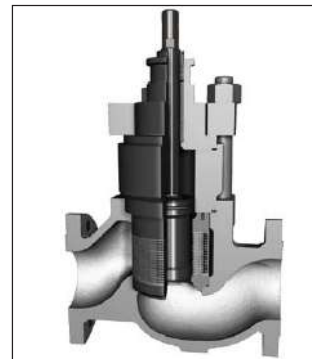

Figure 9
- 8.4.1. Stealth replaces the standard Mark One retainer with a braised, stacked-disk retainer, see Figure 9. Several of the parts, including the plug, seat ring and bonnet have dimensional differences from the standard Mark One design. Assembly and disassembly of the valve follows the standard procedures.